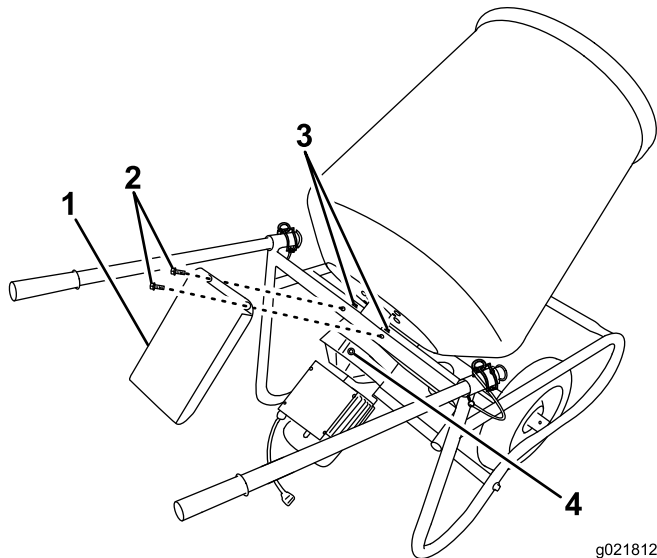

Figure 16
1. Remove the motor cover (Figure 16).
2. Remove the oil plug (Figure 16).